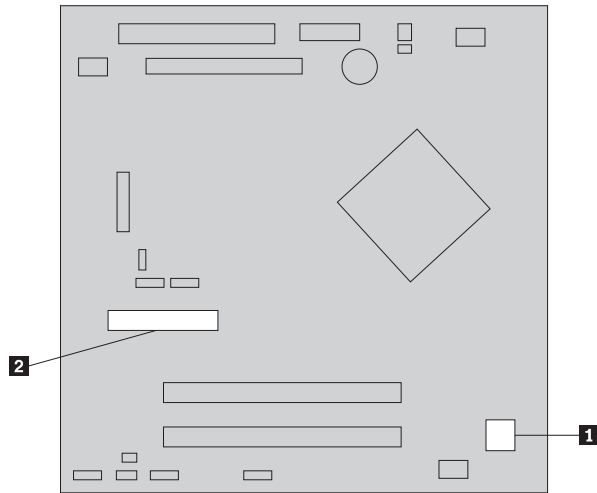

Figure 18. System-board connectors
6. Disconnect the power supply cables **1** and **2** from the system-board connectors and from all drives. See Figure 18.